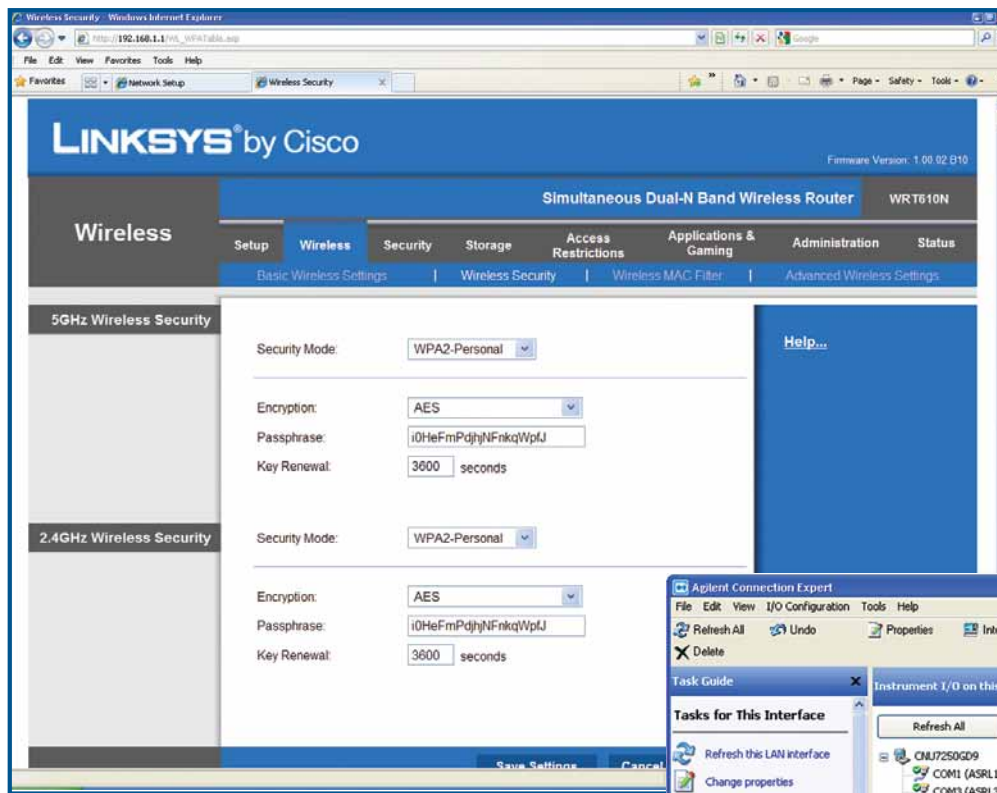

FIGURE 3. Set up the wireless router using the built-in Web server (security window shown here).
- Using the router Web server home page, configure the wireless router settings (see **Figure 3**):
- Reduce the chance of a "brute force" attack by using at least 13 random characters to create your passphrase. Notice in **Figure 3** the WPA2 mode with AES encryption and strong passphrase.